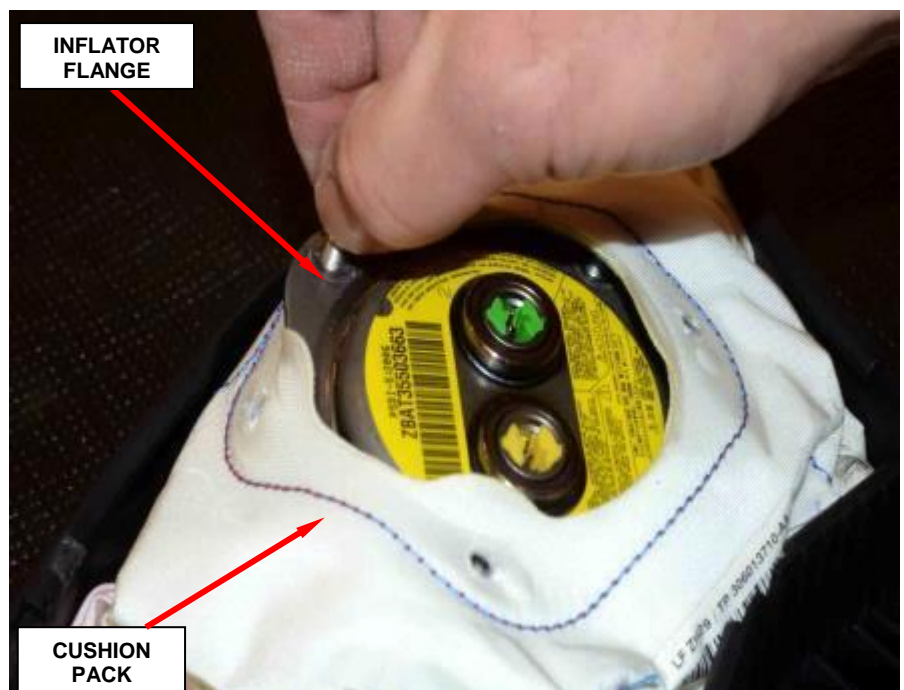

Figure 10 – Remove Inflator
e. In this rotated position, peel one edge of the inflator flange out of the cushion pack (Figure 10).